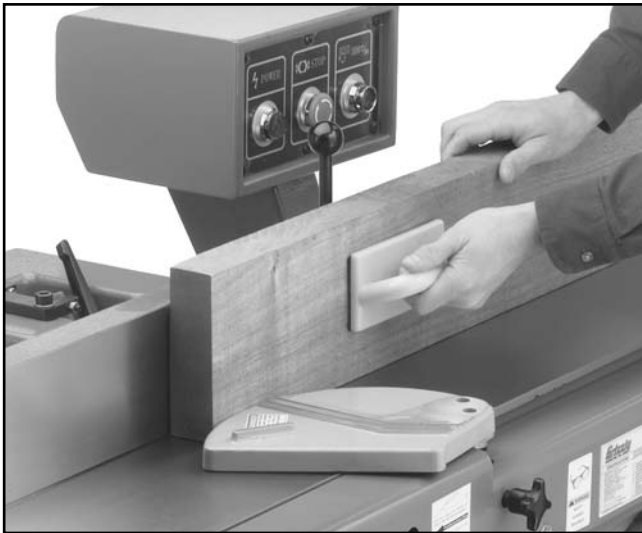

Figure 19. Operator position for edge jointing.
4. Holding the stock firmly against the fence and table, feed the stock slowly and evenly over the cutterhead as shown in **Figure 19**.